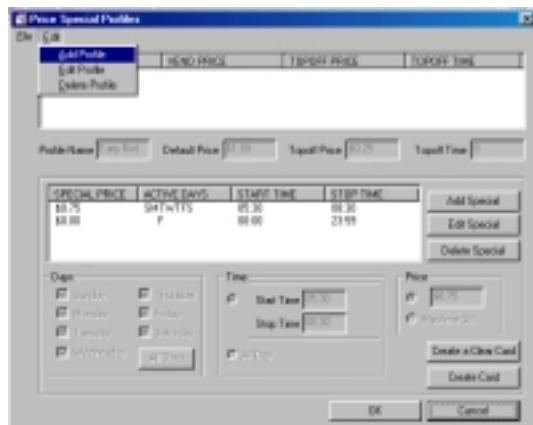

Figure 8.16 Adding a Profile
1. In the Price Special Profile window select Add Profile from the edit drop-down menu (Figure 8.16).